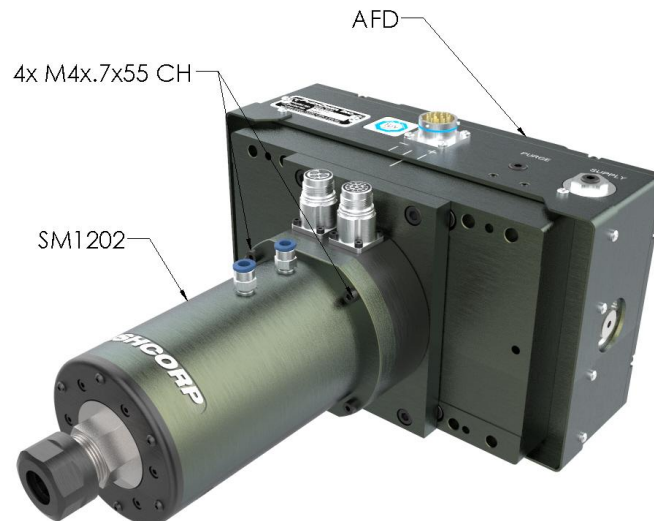

FIGURE 2: PERPENDICULAR MOUNT
To attach the motor to an AFD in a perpendicular-axis configuration, position the motor and the required perpendicular mounting plate over the carriage as shown in Figure 2. Then mount the adapter plate to the carriage with four (4) M6x1x20 cap head screws. The motor can then be mounted to the adapter plate with four (4) M4x.7x55 cap head screws. Tighten the fasteners to the torque specified in Section 4.0.